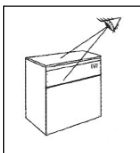

Fig 1.
1) Check that ice cuber has not been damaged during transportation (Fig.1)